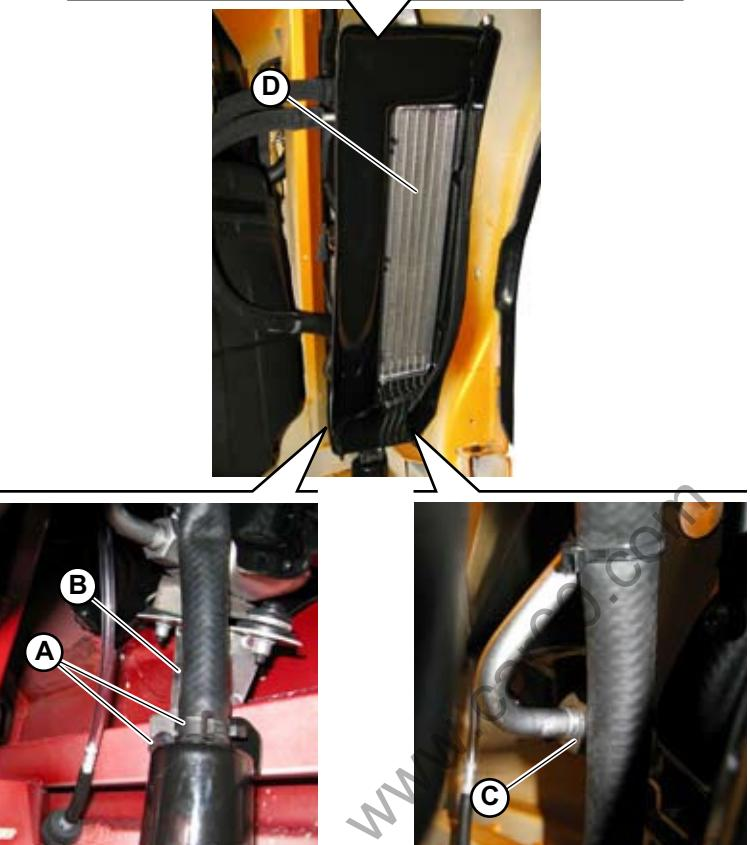

Fig.1
1. Loosen the 4 screws (A-Fig. 1) securing the two radiator mounting brackets (B-Fig. 1) to the chassis.
2. After releasing the radiator, disconnect the two gearbox oil circuit pipes (C-Fig.1).
3. Remove the radiator including the air conveyors (D-Fig.1).